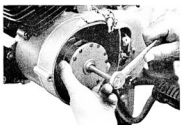

Fig. 4-1-6
3) Remove the rotor with the rotor removing bolt (Hitach M8, P1.25). (Fig. 4-1-6)